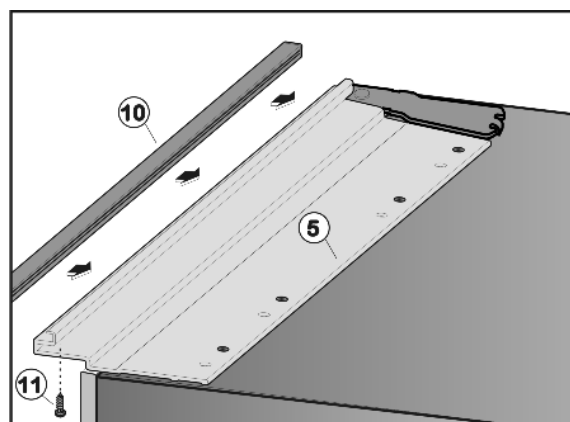

Fig. 47
- Position end strip Fig. 47 (10) over the installation contour Fig. 47 (5) and align it such that the holes in ventilation grille and installation contour are above each other.
- Screw end strip Fig. 47 (10) to installation contour Fig. 47 (5) from below using three screws Fig. 47 (11).